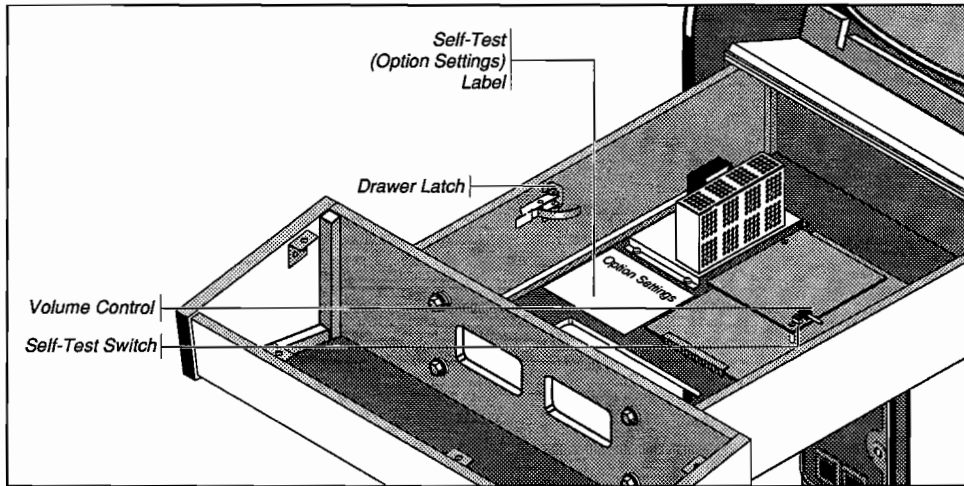

Figure 1-1 Control and Switch Locations
Most of the controls are located inside the drawer, behind the control panel (see Figure 1-1). The only exception is the power on/off switch.
1. Reach in through the openings on the front of the drawer, and open the spring draw latch on each side. Pull the drawer out partly. (See Figure 1-1.)